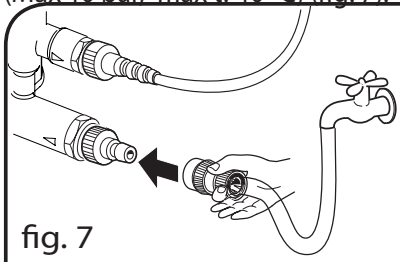

fig. 7
3. Connect garden hose to unit's water inlet (Max 10 bar, max t. 40°C) (fig. 7).